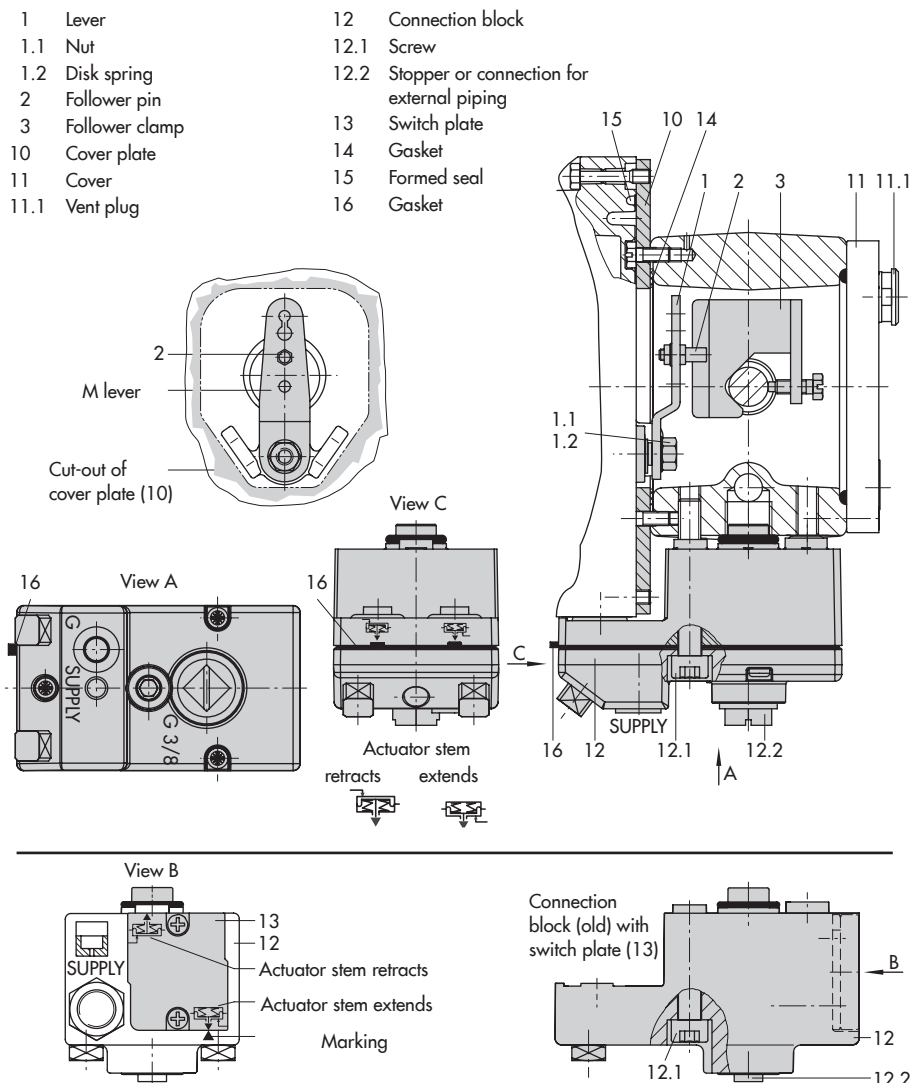

Fig. 4: Direct attachment – Signal pressure connection for Type 3277 Actuator with 175 to 750 cm²
Actuators with 175 to 750 cm² effective areas (see Fig. 4)
1. Place follower clamp (3) on the actuator stem, align it and screw tight so that the mounting screw is located in the groove of the actuator stem.
2. Mount cover plate (10) with narrow side of the cut-out (Fig. 4, on the left) pointing towards the signal pressure connection. Make sure that the gasket (14) points towards the actuator yoke.
3. For actuators with 355, 700 or 750 cm², remove the follower pin (2) on the **M** lever (1) on the back of the positioner from pin position **35**, reposition it in the hole for pin position **50** and screw tight. For actuators 175, 240 and 350 cm² with 15 mm travel, keep the follower pin (2) in pin position **35**.
4. Insert formed seal (15) into the groove of the positioner housing.
5. Place positioner on the cover plate in such a manner that the follower pin (2) rests on the top of the follower clamp (3). Adjust the lever (1) correspondingly and open the positioner cover to hold the positioner shaft in position at the cap or rotary pushbutton. The lever (1) must rest on the follower clamp with spring force. Mount the positioner on the cover plate (10) using the two fixing screws.
6. Make sure that the tip of the gasket (16) projecting from the side of the connection block is positioned to match the actuator symbol for the actuator's fail-safe action "actuator stem extends" or "actuator stem retracts". If this is not the case, unscrew the three fastening screws and lift off the cover. Turn the gasket (16) by 180° and re-insert it.
The old connection block version (Fig. 4, bottom) requires the switch plate (13) to be turned to align the actuator symbol with the arrow marking.
7. Place the connection block (12) with the associated seals against the positioner and the actuator yoke and fasten using the screw (12.1). For actuators with fail-safe action "actuator stem retracts", additionally remove the stopper (12.2) and mount the external signal pressure pipe.
8. Mount cover (11) on the other side. Make sure that the vent plug is located at the bottom when the control valve is installed to allow any condensed water that collects to drain off.